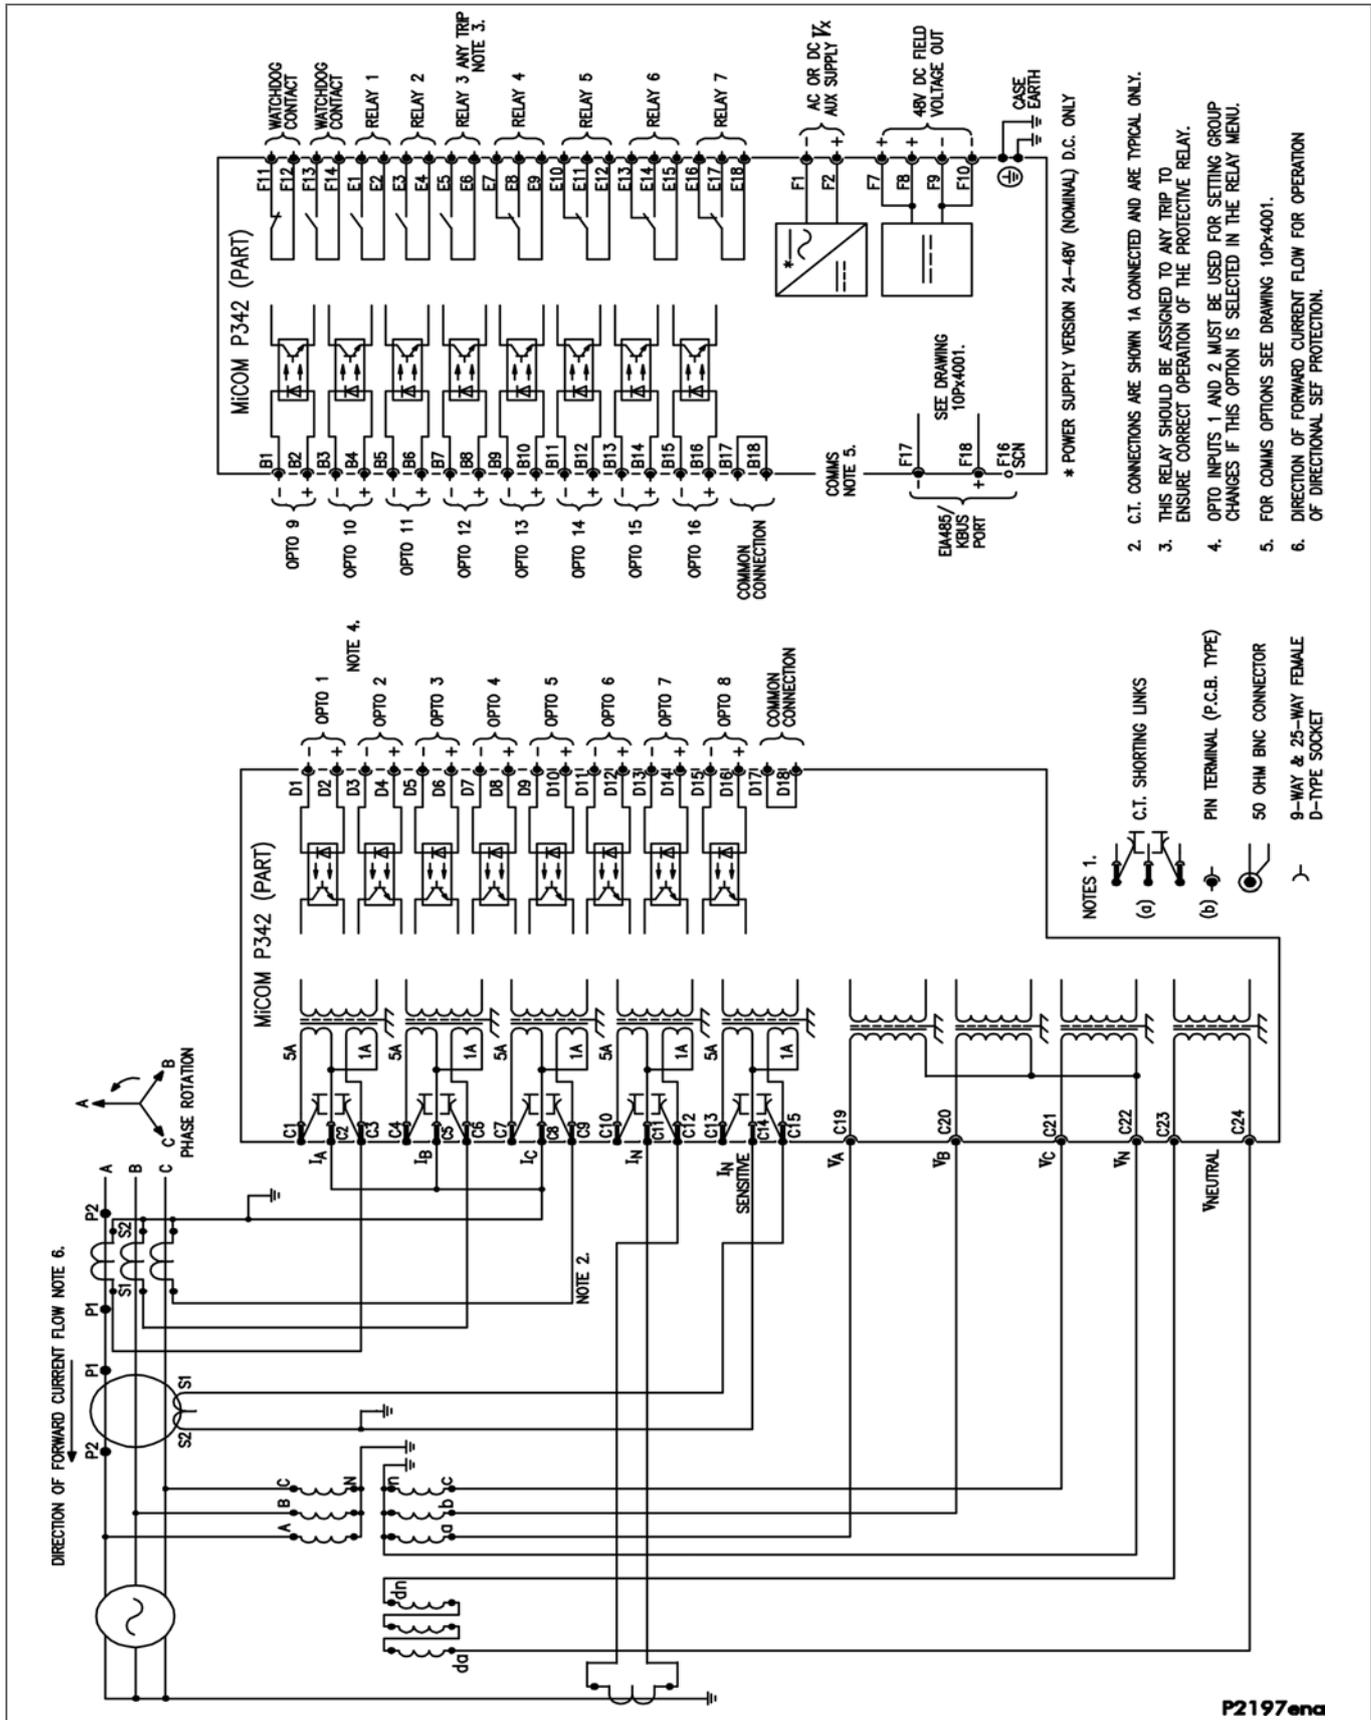

Figure 45 - P342 (40TE) for small generator (16 I/P & 7 O/P)
- Figure 45 - P342 (40TE) for small generator (16 I/P & 7 O/P)